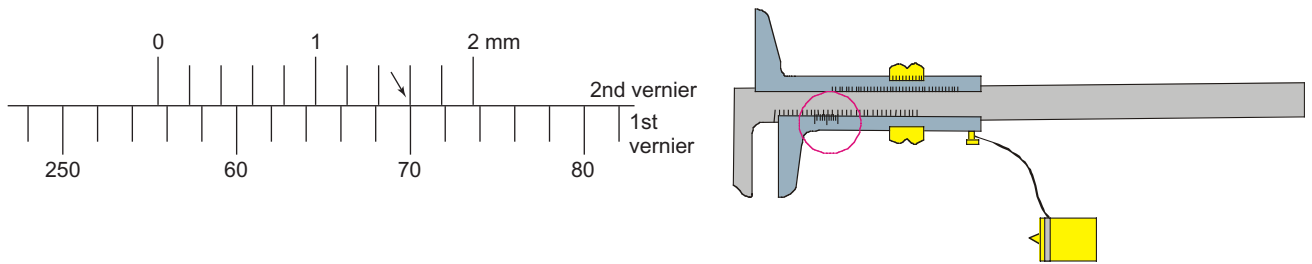

Fig. 3
- 1 Find out where the “0” position of the 2nd vernier is on the 1st vernier. In Fig. 3, the “0” position is located between the 254-mm and 256-mm scale divisions.
- 2 Then, find where the scale of the 2nd vernier coincides with that of the 1st vernier. In Fig. 3, both vernier scales coincide with each other in a division of 1.6. Thus, it can be seen that the division of 1.6 mm is between the 254-mm and 256-mm divisions of the 1st vernier.